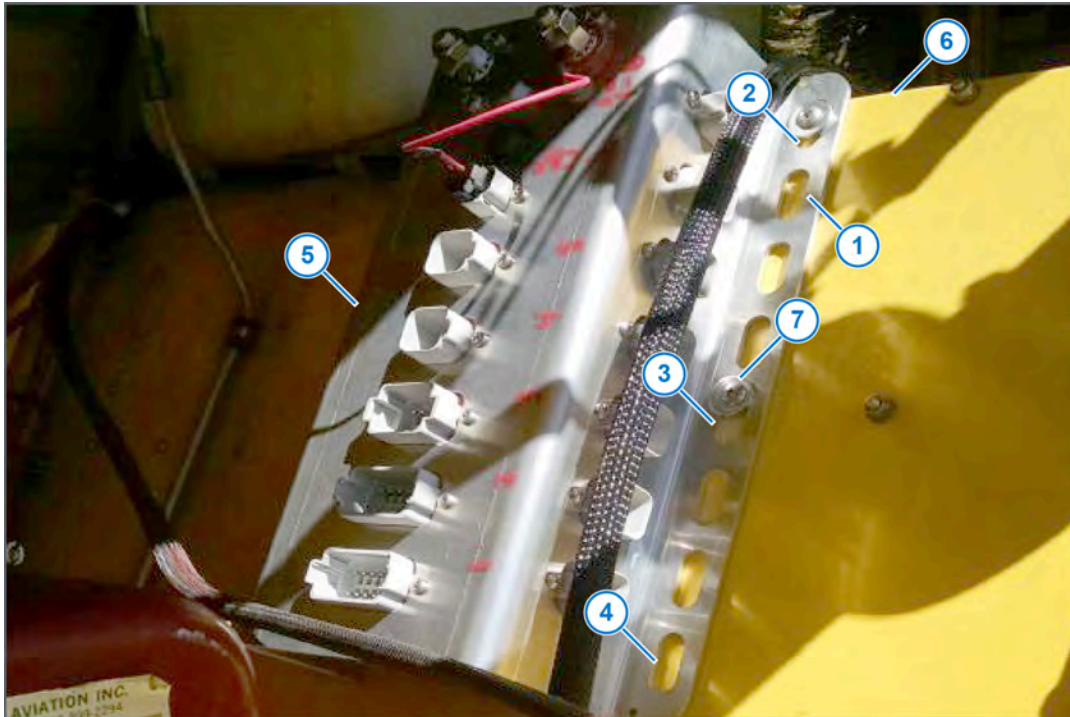

Figure 19: Gateway Hub on the Back of the Luggage Compartment
2. Use the slots (Figure 19, Item 1) in the Gateway hub housing as a guide to match drill three holes on each side on the Gateway—top (Figure 19, Item 2), center (Figure 19, Item 3), and bottom (Figure 19, Item 4) on each side of the Gateway.
3. Install the Gateway hub (Figure 19, Item 5) to the back of the luggage compartment (Figure 19, Item 6) with the supplied hardware (Figure 19, Item 7)—3/8-24 x 31/32 hex bolts, 3/8 flat washers, and 3/8-24 nuts.
See Figure 19